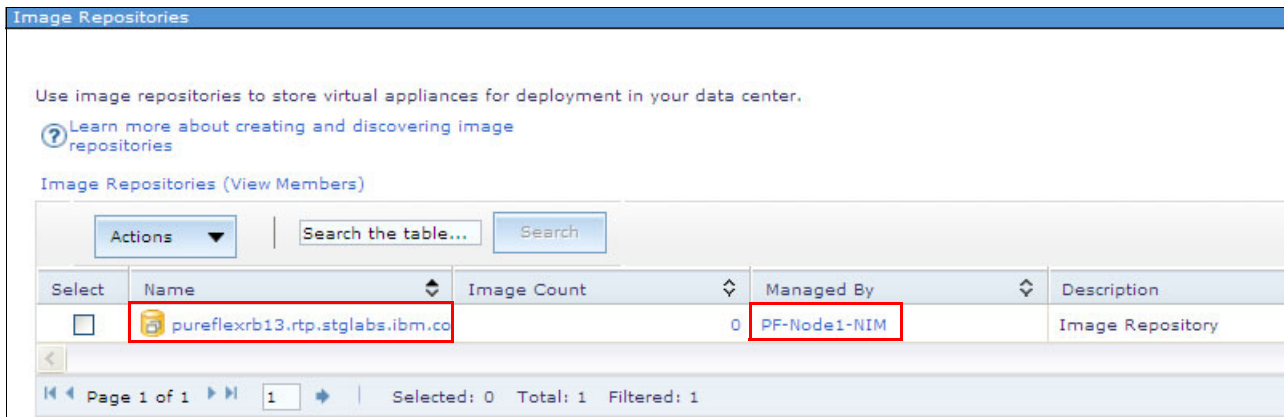

Figure 10-60 Checking the image repository
14. Review the newly created image repository, as shown in Figure 10-60.